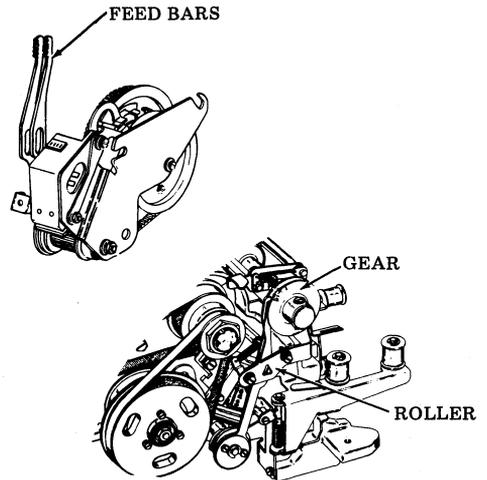

Fig. 34
5.10 Check for excessive wear on gear, feed bars and roller (Fig. 34). Replace gear and/or line feed mechanism. If line feed mechanism is replaced, perform CLUTCH DRIVE BELT TENSION adjustment.